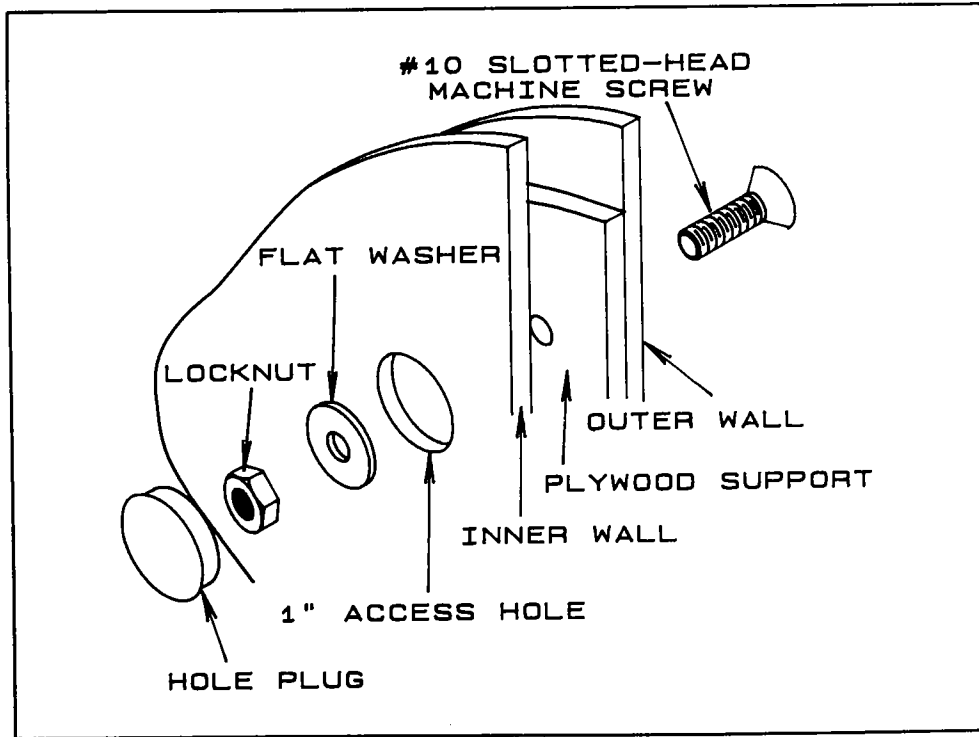

Figure 41. Access Hole and New Hinge Fastener
- Using a #10 drill bit, line drill holes #1, #2, and #7. Reinstall the fasteners and replace all body plugs on the interior of the camper (figure 41).